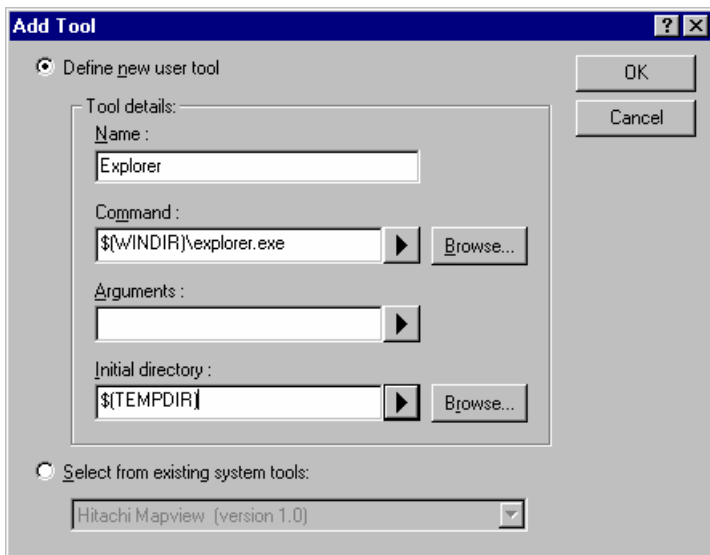

Figure 6.5: Add Tool Dialog
2. Click the “Add...” button (the dialog shown in figure 6.5 will be invoked). If you would like to add an existing system tool to the menu then select the “Select from existing system tools” radio button, choose the tool from the drop-down list and then click “OK”.